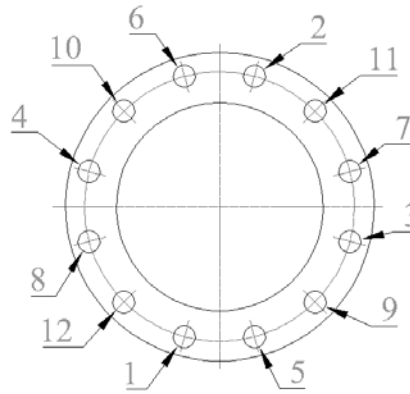

Fig. 3 Recommended re-tighten order
- Re-tighten diametrically opposite all the bolts as per factory specifications to overcome possible bolt relaxation during long-term storage (Fig.3)
- For high temperature and high pressure applications after 24 hours of operation, all nuts shall be re-tighten diametrically opposite up to design stresses (Fig.3). This action compensate any relaxation or creep. Periodic inspection is recommended, thereafter.